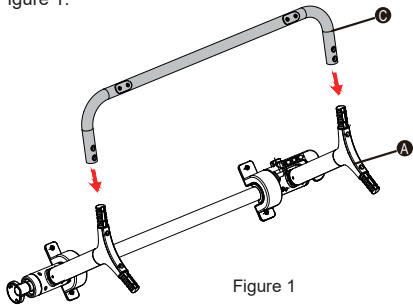

Figure 1
Step 2: Connect the elevation and rotation assembly A to the rear bottom pipe C, as shown in Figure 1.